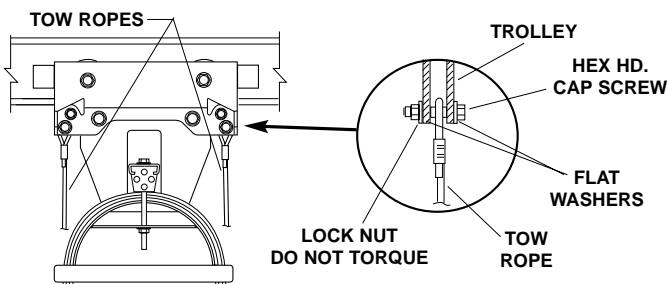

FIGURE 21—TOW ROPE INSTALLATION
- 1. Mount tow ropes with fasteners supplied. See Figure 21.